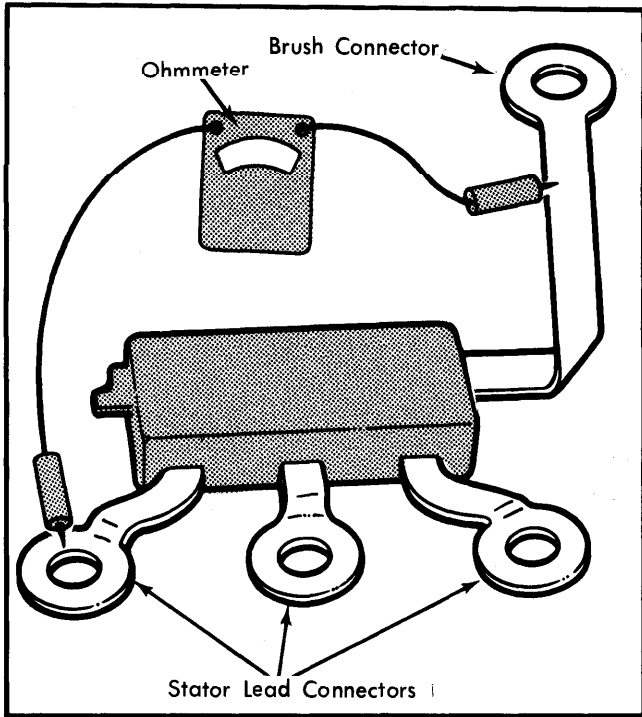

Fig. 15 Bench Testing Typical Diode Trio Using an Ohmmeter
1) Remove diode trio from end frame assembly. Connect an ohmmeter to single brush connector and to any of 3 stator lead connectors. Then reverse ohmmeter probes. See Fig. 15. A good diode will give one high and one low reading. If both readings are the same, replace diode trio.